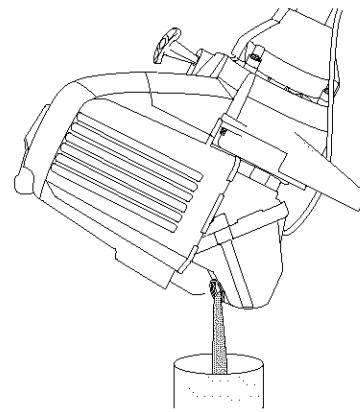

Fig. 27
3. Pour the oil out of the oil fill hole and into a container by tipping the unit to a vertical position (Fig. 27). Allow ample time for complete drainage.